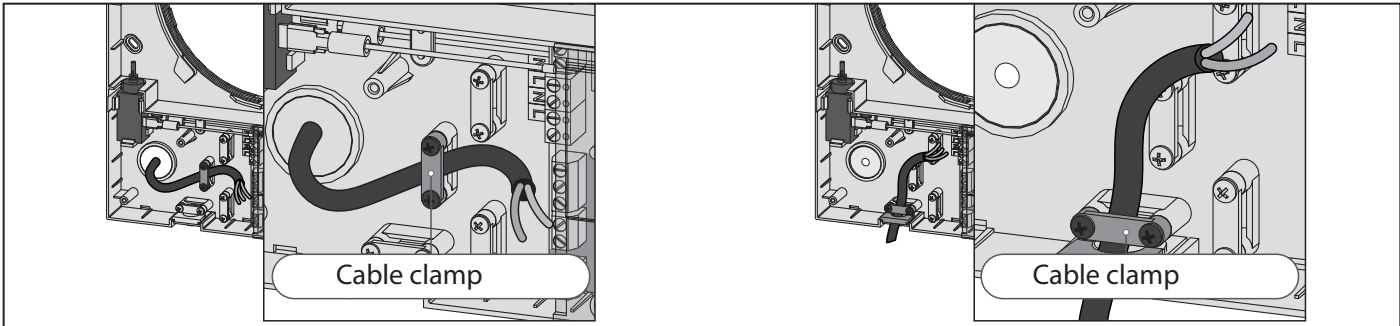

Fig. 10.
6. Route the power cable (see Fig. 10) and connect the ventilator to power mains in compliance with the external wiring diagram (see Fig. 16). Fix the